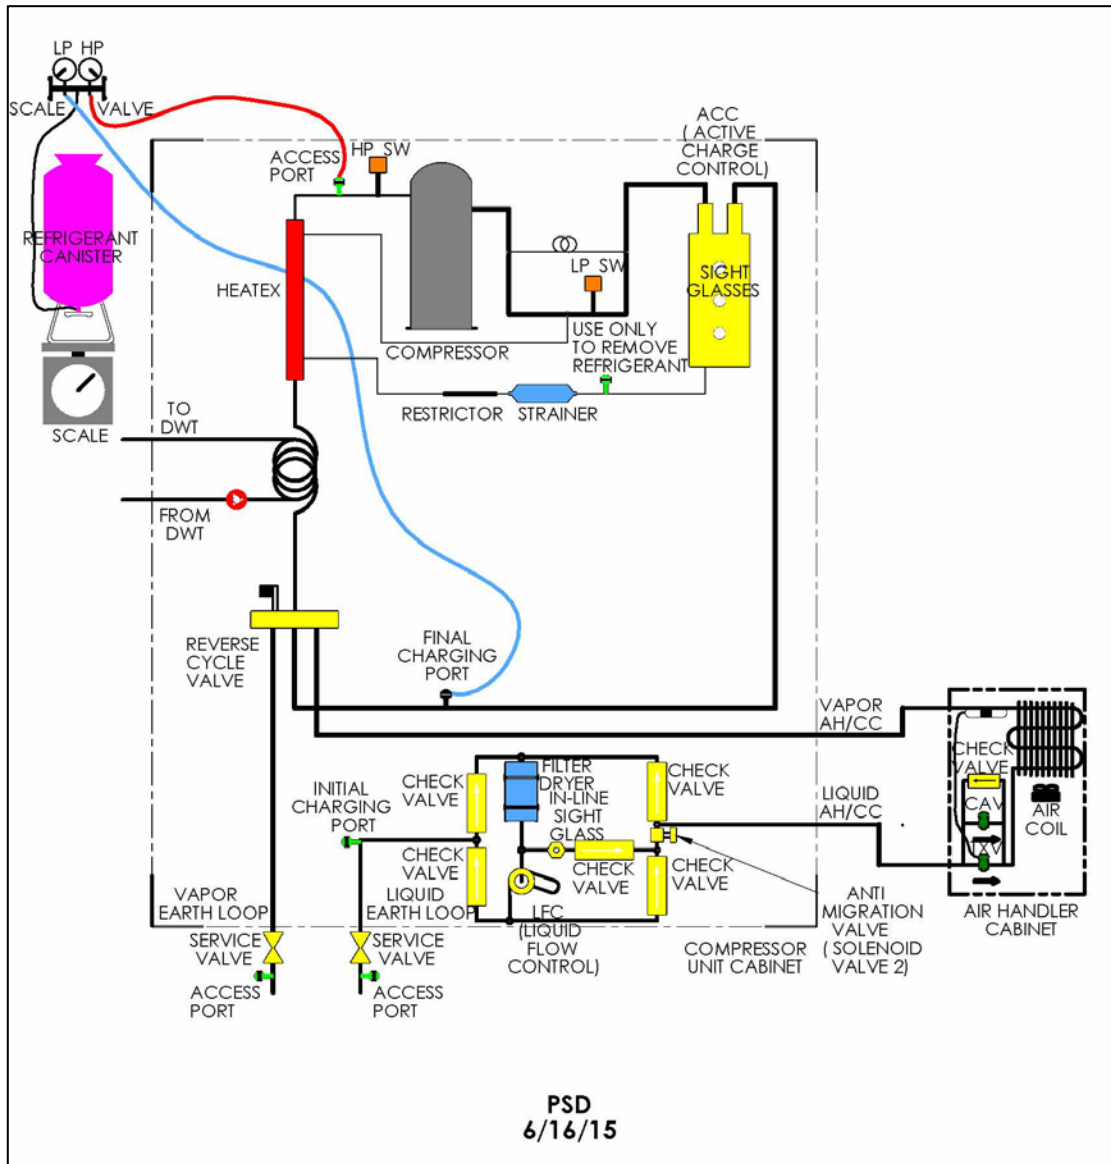

Figure 28. Final Charge of PSD System
2. Crack open the LP valve on the manifold gage set so that a small amount of refrigerant gas flows to purge the hose. Connect the hose to the final charging port, shown in Figure 28. Tighten the hose to the final charging port and turn off the LP valve when the hose connection is secure.
7. With the liquid refrigerant level at the middle sight glass, attach and insulate a temperature clamp or probe securely to the earth loop vapor line at the compressor unit service valve shown in Figure 28. Read the measured temperature. Also read the LP gage pressure on the manifold gage set. Use a pressure/temperature chart (Figure 34) to verify that the system is operating at saturation, meaning that no superheat is measured on the earth loop vapor line. To verify this, the measured vapor line temperature should be within $\pm 3^{\circ}\text{F}$ of the saturation temperature read from the chart for the measured LP gage pressure. If the measured temperature is out of this range, contact ETI technical support at 1/863-701-0096.